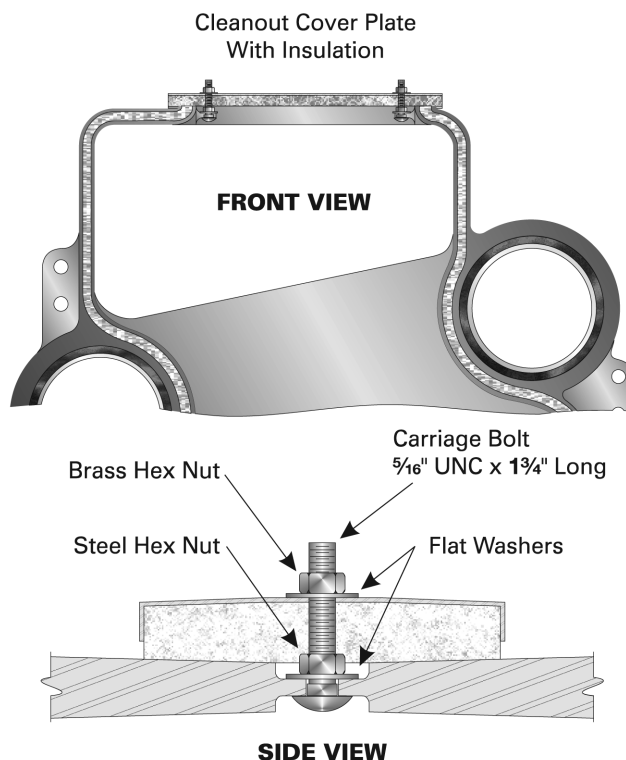

Figure 2.11: Install Cleanout Cover Plates
1. Apply the Cleanout Cover Plates on the tops of the section joints as shown in Figure 2.11.